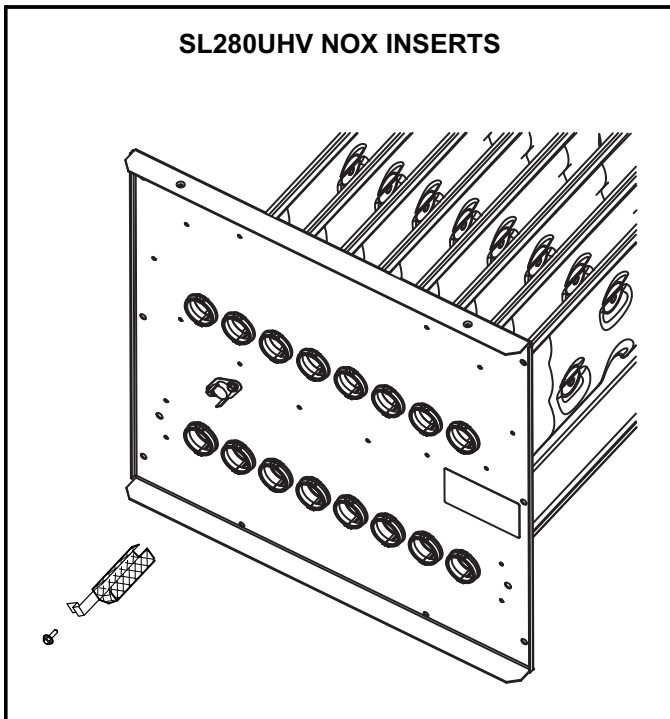

FIGURE 23
- 8 - **NOX units only** - Remove screw securing NOX insert. Remove NOX insert. See figure 23.